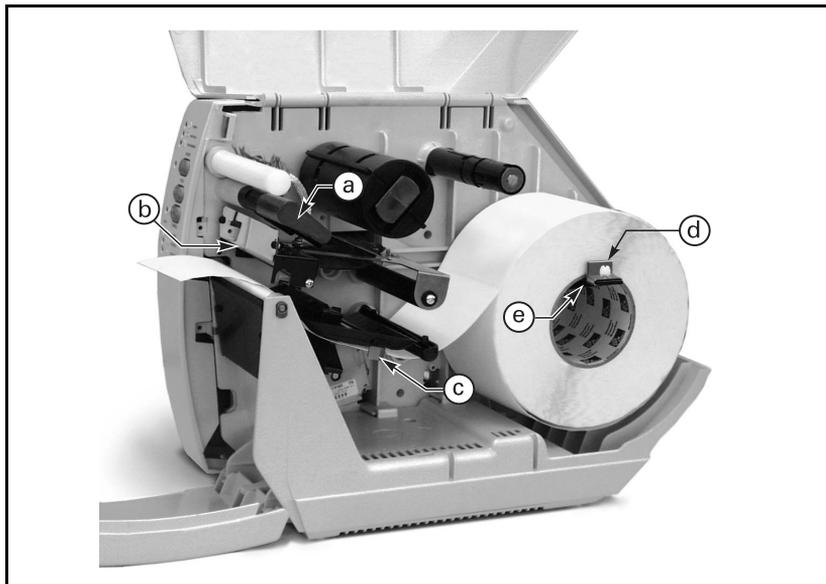

Figure 7. Loading — Tear-Off Mode
1. Refer to Figure 7. Move the head open lever (a) counterclockwise to the open position to raise the printhead (b).